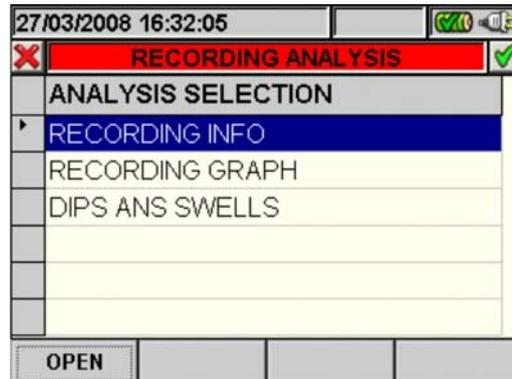

Fig. 88: Recording analysis (Reg-type data)
2. Press the **ESC** key (or the smart icon ) to exit the function and go back to the “Recording analysis” page (Fig. 88).
- The **ESC** key (or smart icon ) to exit the function and go back to the “Recording analysis” page (Fig. 88).